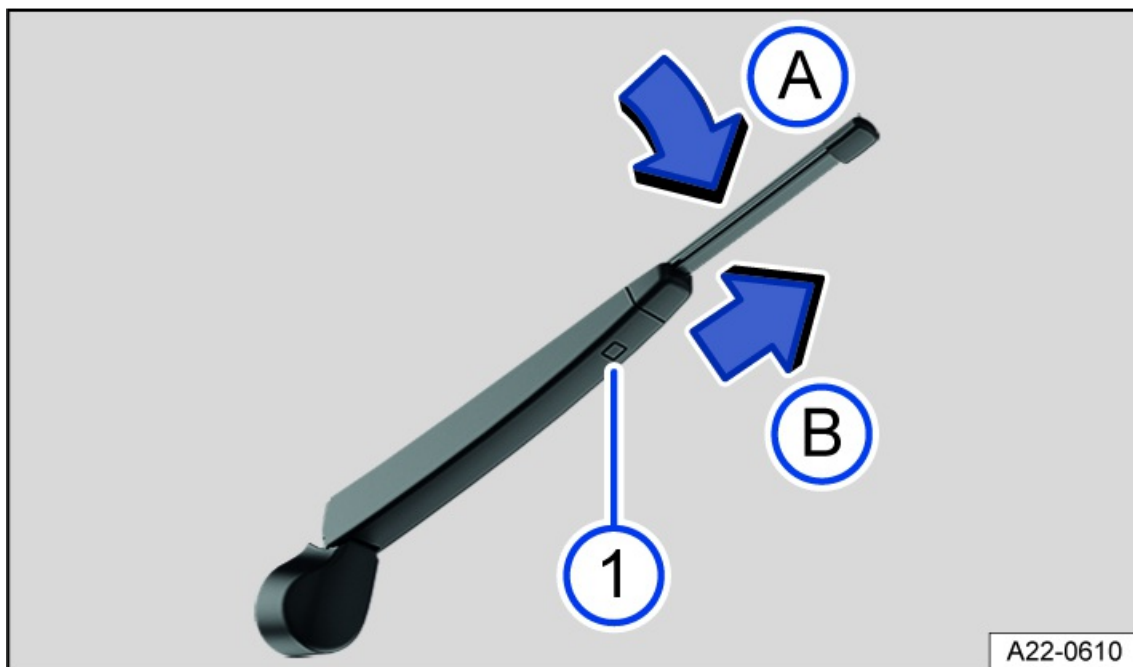

Fig. 142 Changing the rear window wiper blade.
① Wiper blade release button.
3. Press and hold the release button *fig. 142* ①.
4. Tilt the wiper blade toward the wiper arm *fig. 142* ② while removing it in the direction of the arrow ③. You may need to use more force to do this.
5. Slide a new wiper blade with the same length and design onto the wiper arm in the opposite direction to the arrow until it engages *fig. 142* ④. For this to work, the wiper blade has to be folded out *fig. 142* ②.